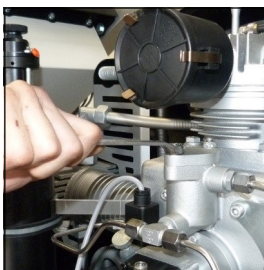

Fig. 1
- Fix and tighten mounting nuts of the filter cover (Fig. 1)